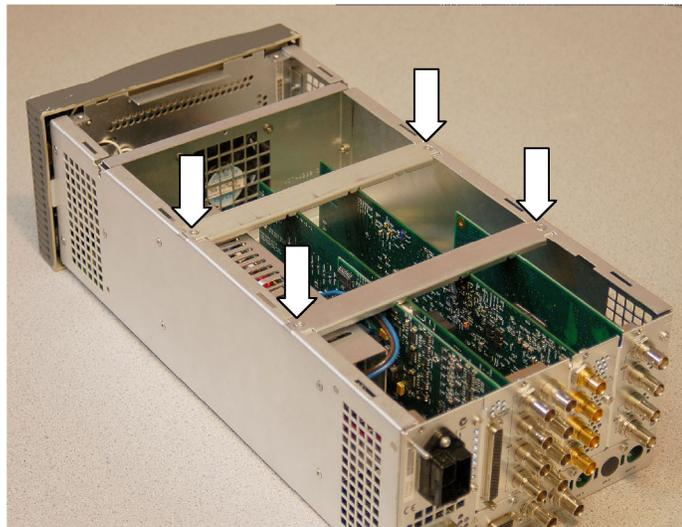

Figure 4: Removing the module guide brackets (option boards shown)
6. Remove the four screws from the module guide brackets. (See Figure 4.) Remove the brackets and save the screws for reinstallation. Note that the brackets are keyed to the fit on the chassis in only one direction.